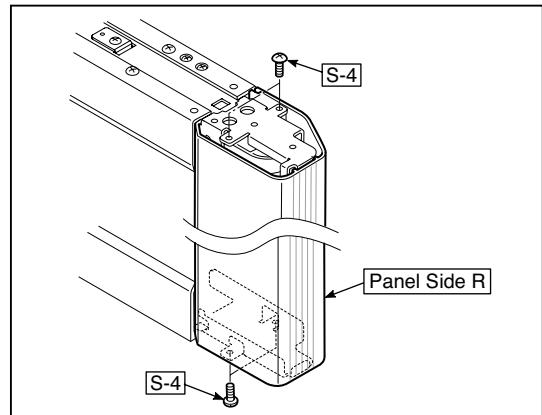

Fig.11
- 1 Remove the “S-4” screws shown in the figure 11 and then remove the Panel Side R.